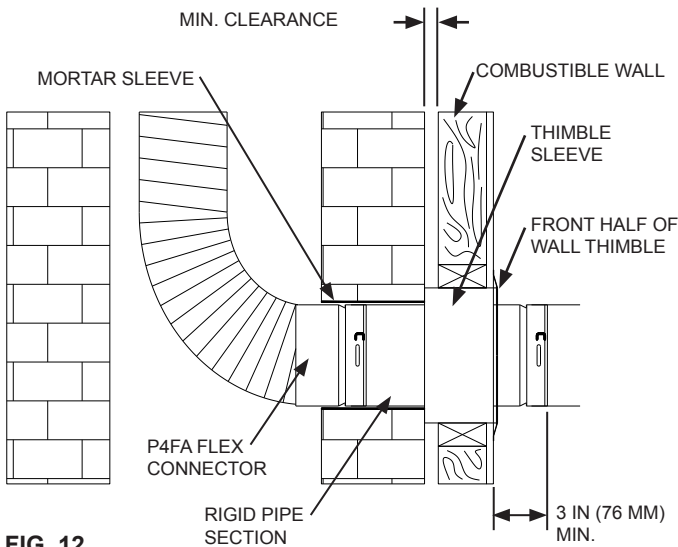

FIG. 12
Step 3: Insert liner into masonry chimney as described in these instructions. Attach the **P4FA** Flex Connector to the bottom end of liner and secure with three (3) #8 x 1/4" (M4 x 6 mm) sheet metal screws.
Step 4: After liner is installed, attach a section of rigid pipe to flex connector (**be sure flow arrow is pointed in correct direction**) and secure with twist lock (See FIG. 12).
Step 5: The thimble sleeve will need to extend through the combustible wall and be flush with masonry. Pull the sleeve extension out to required length and secure extension to sleeve with screws. Slide wall thimble over rigid pipe and insert into combustible wall opening. Secure thimble to wall with fasteners. **Rigid pipe must extend out past combustible wall a minimum of 3 inches (76 mm) as shown in FIG. 12.**